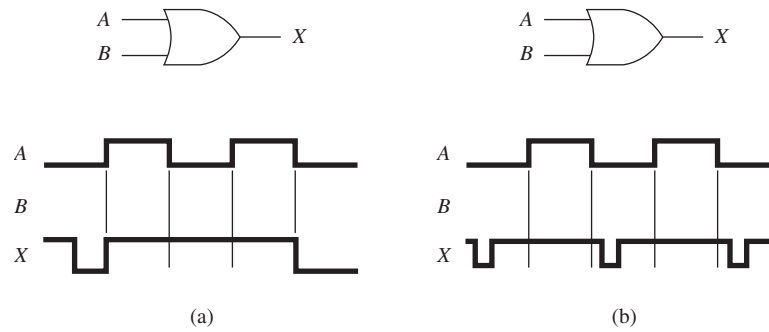

Figure P3–11
- C** 3–11. Repeat Problem 3–10 for the two-input OR gates shown in Figure P3–11.